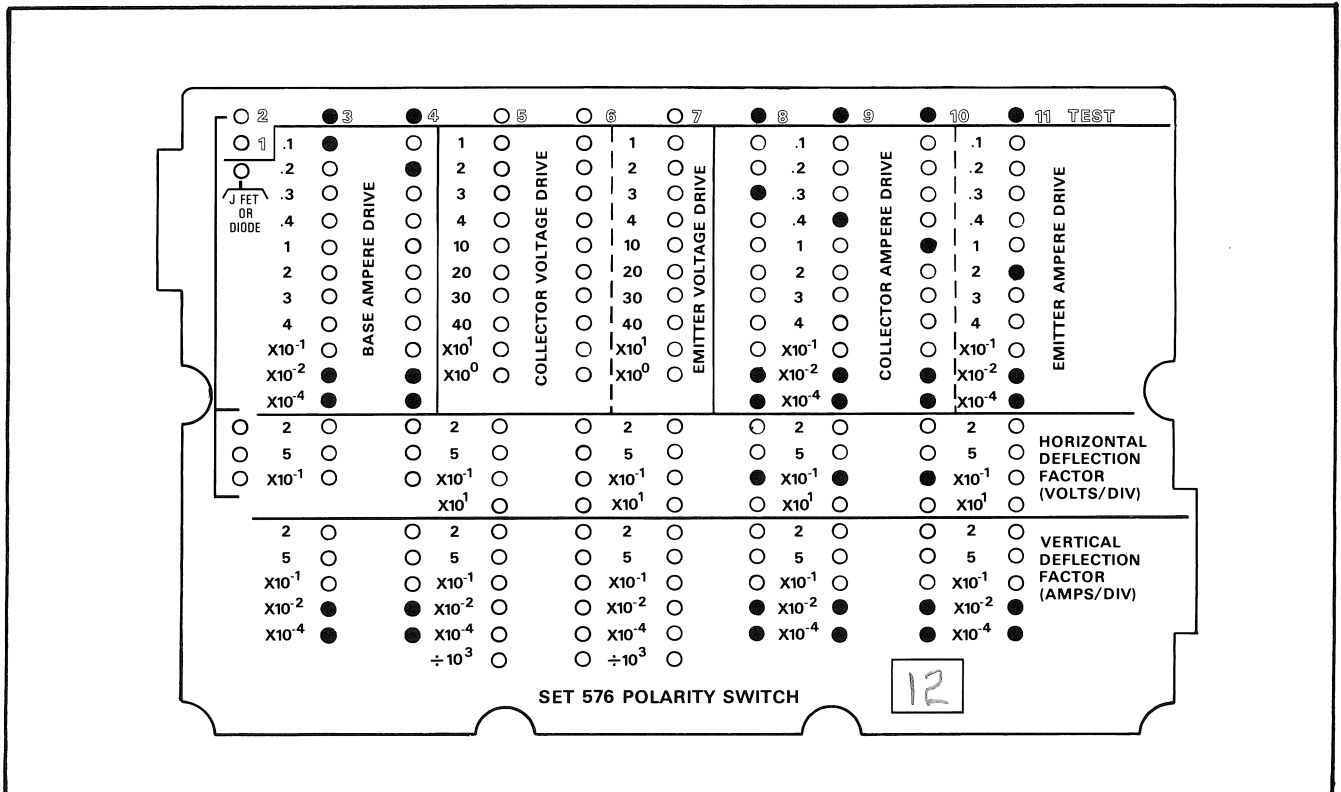

Fig. 5-12. Program 12.
a. Install a card containing program 12 (Fig. 5-12) in the card reader.